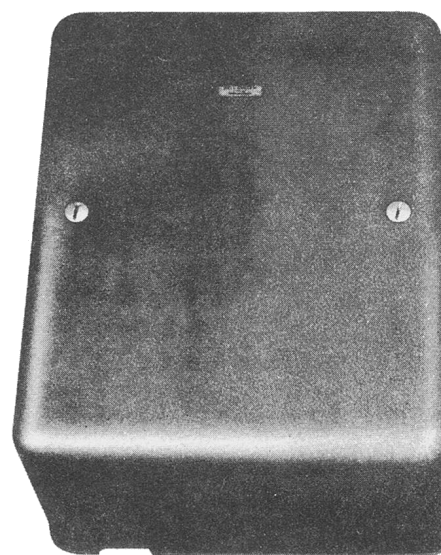

Fig. 9 — J86471A, List 2 Cabinet
6.07 When the J86731C, List 1 101G power plant is not required, the ac and dc units may be mounted in the J86471A, List 2 cabinet (see Fig. 9) for wall mounting.